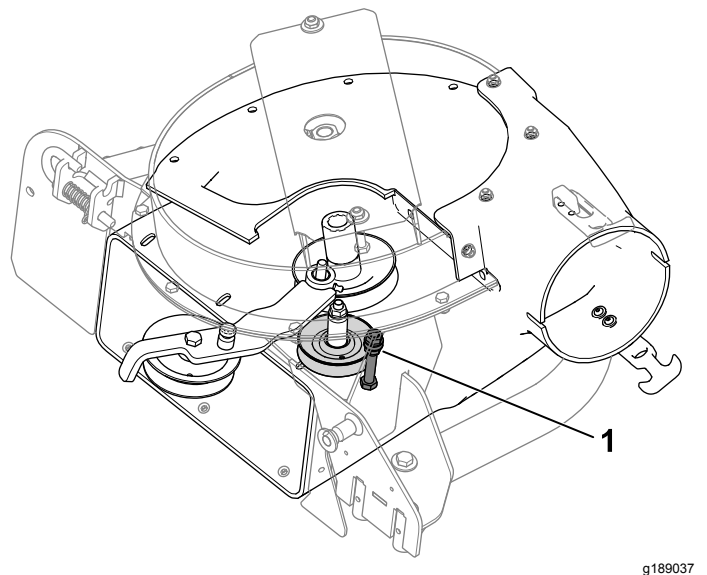

Figure 36
2. Loosen or remove the guide pin (Figure 36).